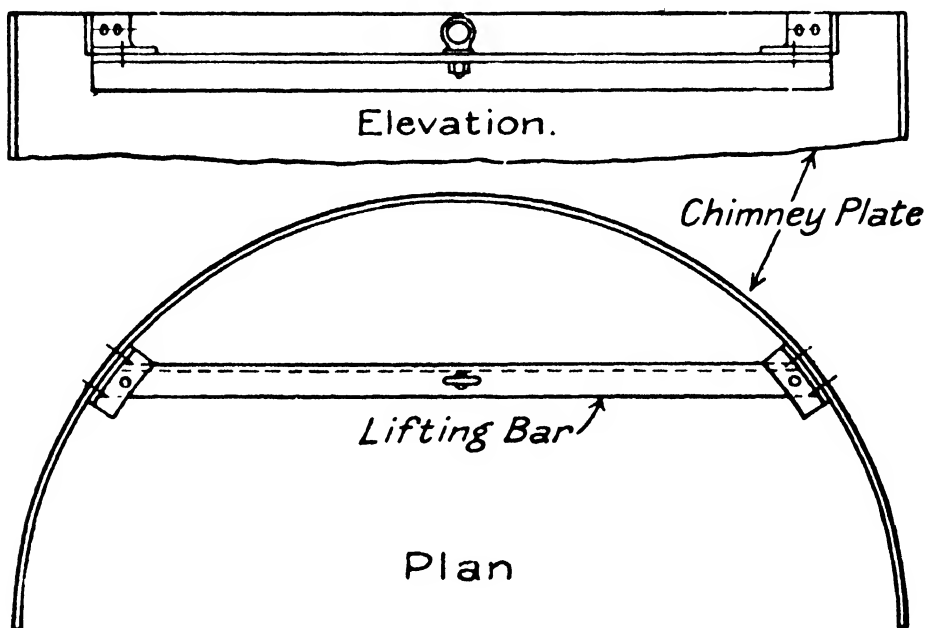

FIG. 73.—A Lifting-Bar for Curved Plates.
**A Plate-lifter.**—Head room for the top tackle is very precious. A simple way of lifting the plates quite plumb with foreshortened tackle is by fixing a temporary angle iron lifting bar, as shown in Fig. 73. This should be supplied by the works and dispatched with the plates. The angle is bolted to two cleats as shown, and has a small eye-bolt in the centre. It also forms a stretcher-bar to hold the curved plate at its correct sweep, which makes landing so much easier than if some springing of the plate has to be done up aloft. If more head room is required than this angle affords with two short cleats, the latter may be substituted by deeper ones.